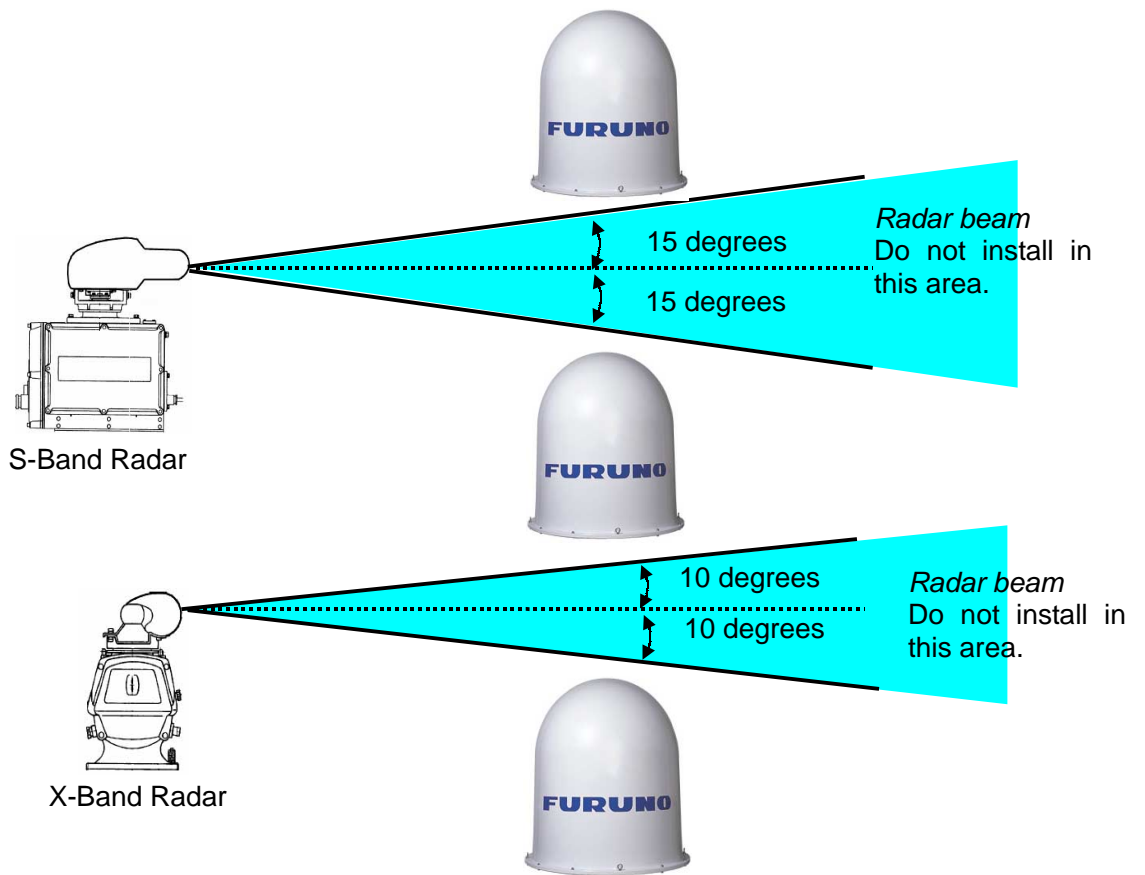

Figure 8
2. The radar antenna should be at least 5 meters away. And the Inmarsat antenna should not be within the radar beam as shown in Figure 8.